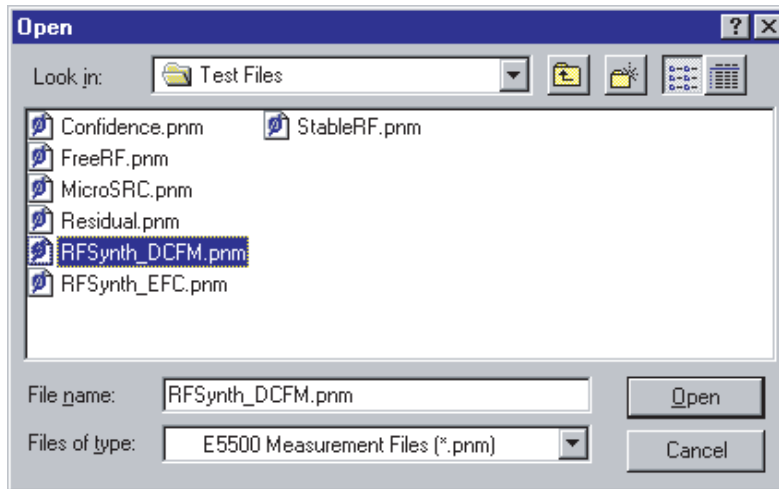

Figure 97 Select the parameters definition file
- 3 In the **File Name** box, choose "**FreeRF.pnm**". See Figure 97.